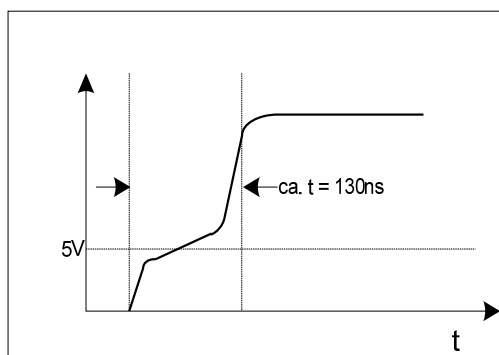
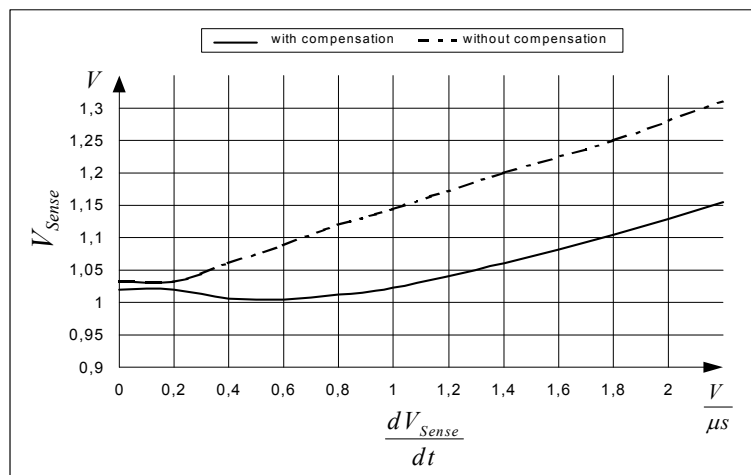

Figure 15 Soft gate drive waveform
Figure 19 Propagation delay compensation curve
The gate soft driving is to split the gate driving slope into 2 so that the MOSFET turns on speed is relatively slower comparing to a single slope drive (see Figure 15). In this way, the high $\Delta I/\Delta t$ noise is greatly reduced and the noise signal reflected in the EMI spectrum is also reduced.
The maximum power of the system is changed with the input voltage; higher voltage got higher maximum power. This is due to the propagation delay of the IC and the different rise time of the primary current under different input voltage. The propagation delay time is around 200ns. But if the primary current rise time is faster, the maximum power will increase. The power difference can be as high as >14% between high line and low line. In order to make the maximum power control become tight, a propagation delay compensation network is implemented so that the power difference is greatly reduced to best around 2%. Figure 19 shows the compensation scheme of the IC. The equation (8) explains the rate of change of the current sense voltage is directly proportional to the input voltage and current sense resistor. For a DCM operation, the operating range for the dV_{sense}/dt is from 0.1 to 0.7. It can show in Figure 15 that higher dV_{sense}/dt will give more compensation; i.e. lower value of V_{sense} .